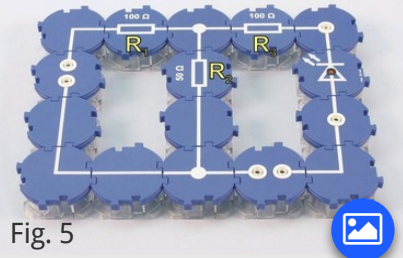
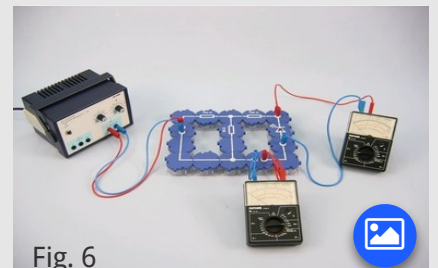

Fig. 5
Fig. 6
- Switch off the power supply unit. Insert the LED with opposite polarity into the circuit as in Fig. 5 and Fig. 6.